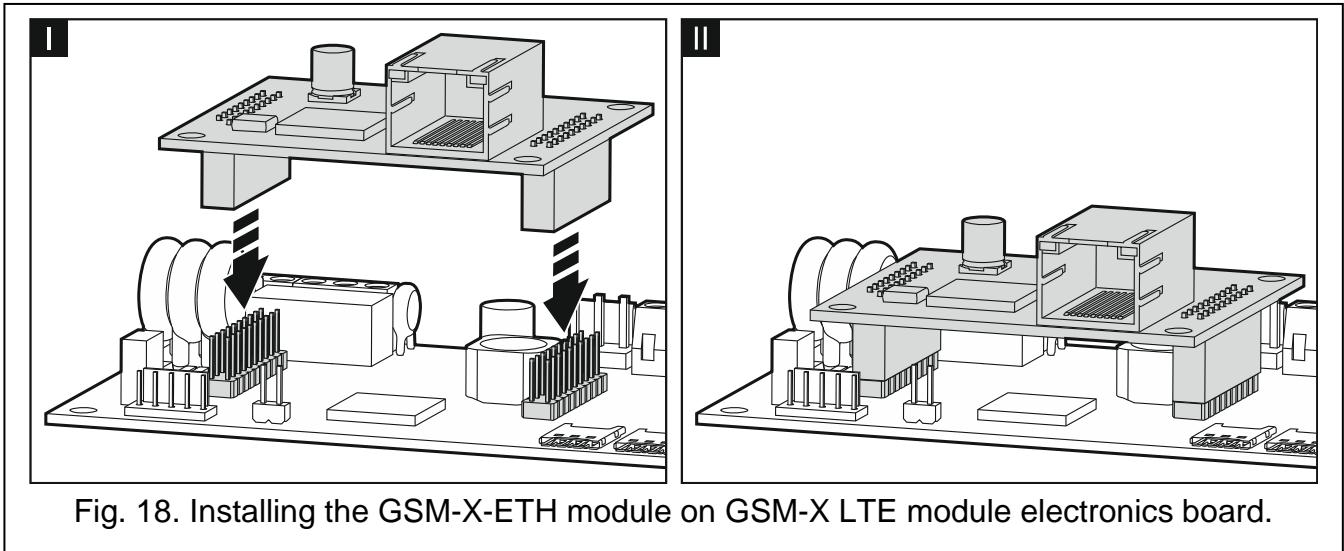

Fig. 18. Installing the GSM-X-ETH module on GSM-X LTE module electronics board.
3. Install the GSM-X-ETH Ethernet module in the connectors on the GSM-X LTE module electronics board (Fig. 18).